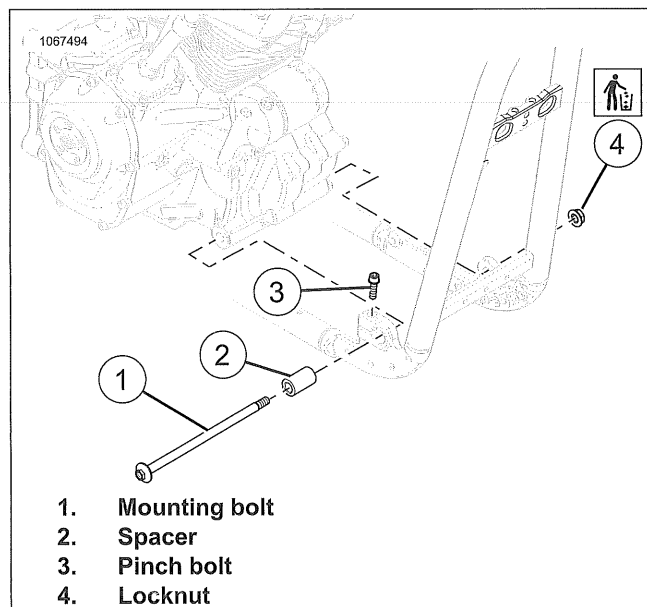

Figure 4-14. Lower Front engine Mount
1. See Figure 4-14. Loosen pinch bolt (3).
2. Remove and discard locknut (4).
3. Remove mounting bolt (1).
4. Remove spacer (2).
1. See Figure 4-14. Install mounting bolt (1) through spacer (2).
2. Install **new** locknut (4). Tighten.
4. See Figure 4-14. Tighten pinch bolt (3).